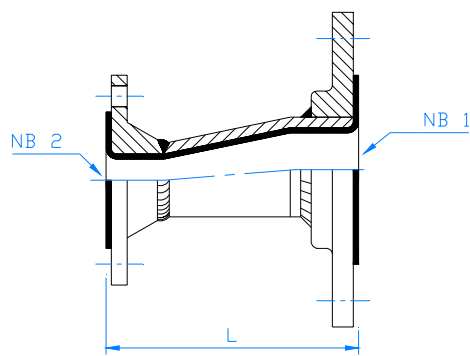

fig. 8.12
8.12. ECCENTRIC REDUCERS (FIG. 8.12)